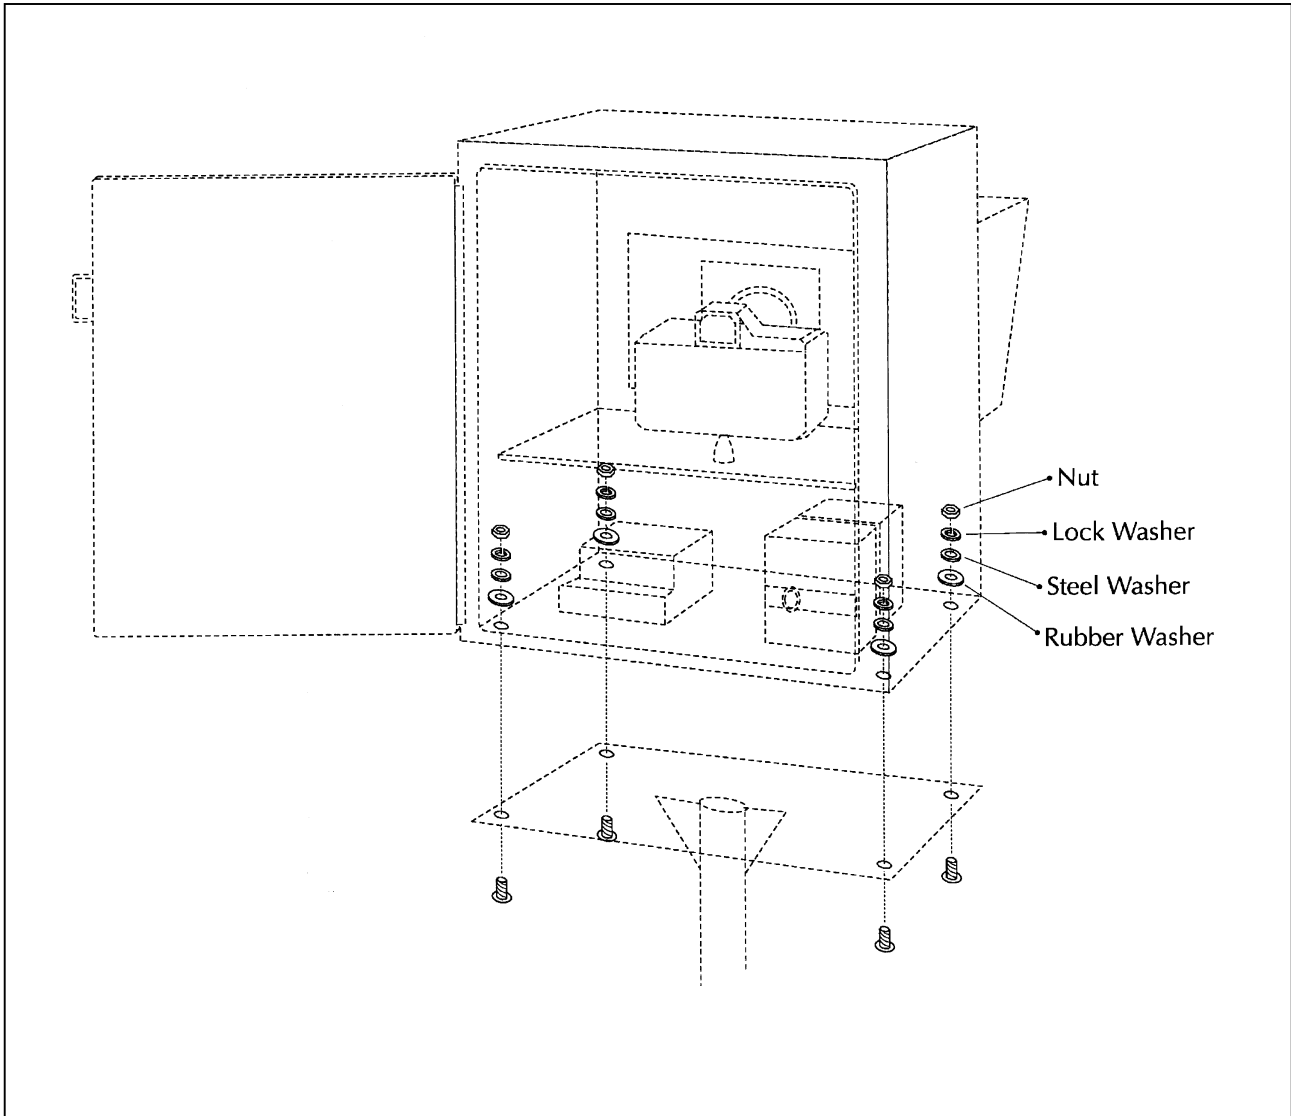

Figure 4-6. Enclosure Mounting Configuration.
MOUNT ENCLOSURE Mount the enclosure to the mounting plate with the four (4) short carriage bolts, lock washers, and nuts provided with the enclosure, as depicted in Figure 4-6. The rounded carriage bolt heads should be on the underside of the mounting plate.